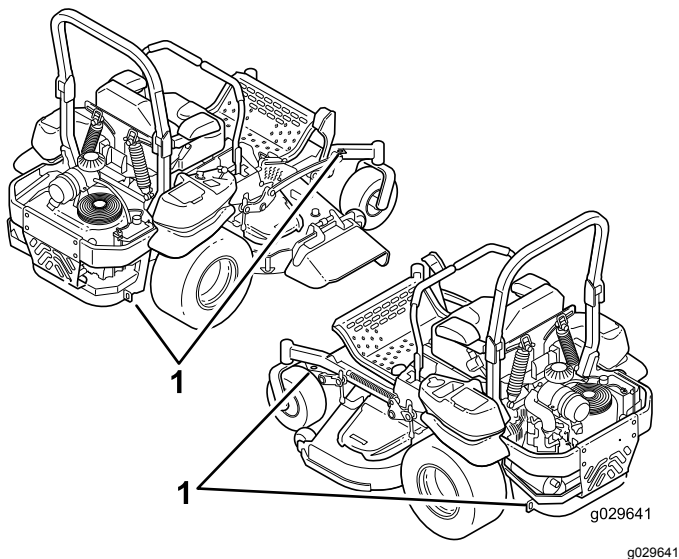

Figure 40
5. Use the metal tie-down loops on the machine to securely fasten the machine to the trailer or truck with straps, chains, cable, or ropes (Figure 40).